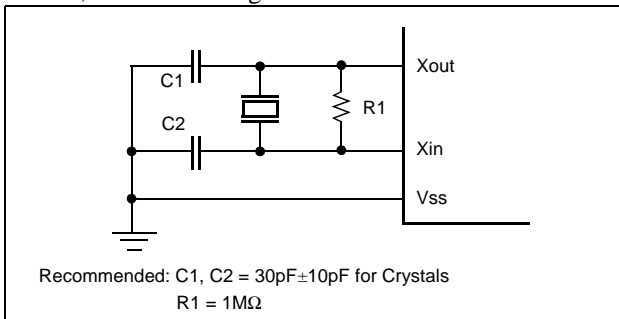

Figure 13-2 Oscillator Connections
X_{IN} and X_{OUT} are the input and output, respectively, a inverting amplifier which can be set for use as an on-chip oscillator, as shown in Figure 13-2 .
- Note:** When using a system clock oscillator, carry out wiring in the broken line area in Figure 13-2 to prevent any effects from wiring capacities.
Note: When using a system clock oscillator, carry out wiring in the broken line area in Figure 13-2 to prevent any effects from wiring capacities.